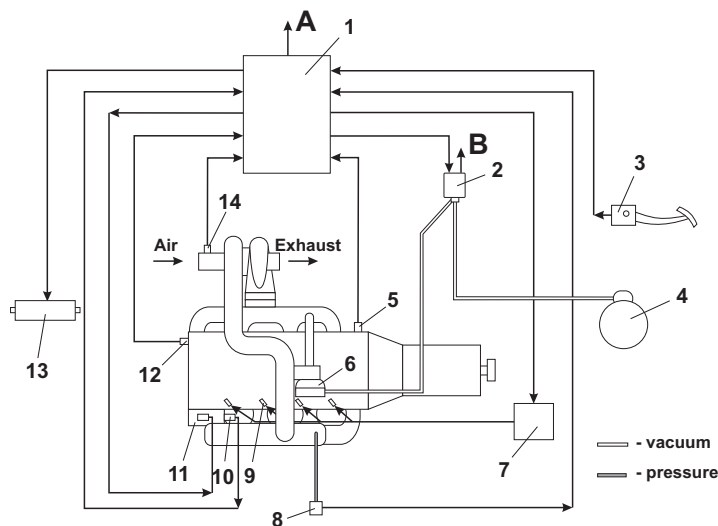

Fig. 6.1. GAZ-560 Engine Control Diagram
**The engine control system** provides variation of engine power performance depending on a driving condition as well as constant engine diagnostics. If its systems fail, the fuel supply decreases or cuts off. Engine control diagram is shown in Fig. 6.1.